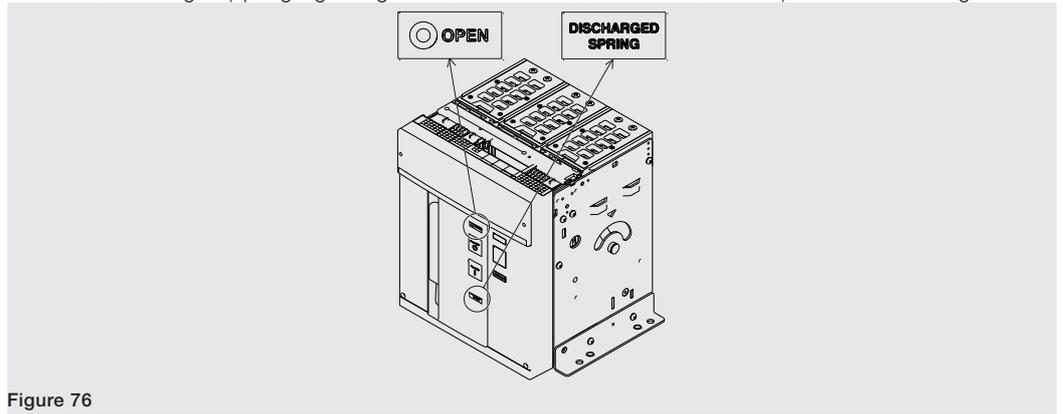

Figure 76
7. Check that the circuit-breaker is open (open / closed indicator "O - OPEN"), and check that the springs are discharged (spring signalling device "white - DISCHARGED SPRING") as indicated in Figure 76.